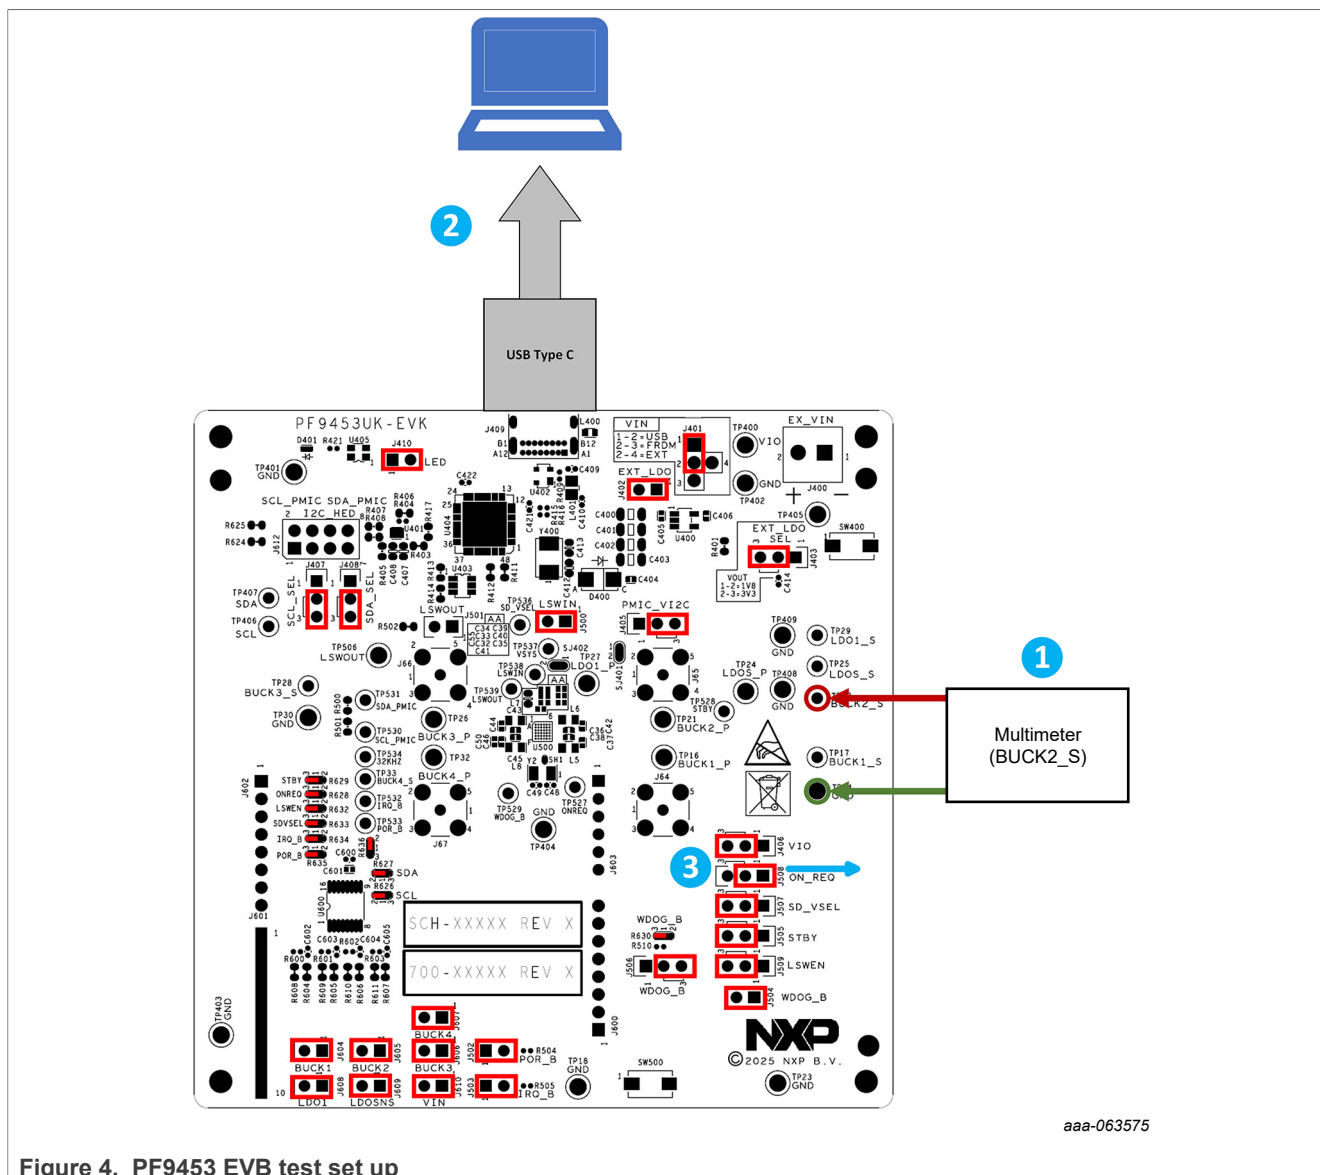

Figure 4. PF9453 EVB test set up
Figure 4 shows test setup block diagram.
See Figure 4 and follow the steps to test the PF9453UK-EVK. Ensure that all jumpers are in their default positions before starting. (See Section 5.3):
1. Connect the positive terminal of the multimeter to TP22 (BUCK2\_S) test point and the negative terminal of the multimeter to TP34 GND test point, see Figure 4 where step 1 is represented with the circle with number 1.
2. Connect the USB -Type C to the PF9453UK-EVK. See that the green LED D401 is ON, see Figure 4 circle with number 2. Use the USB Type-C connector as the power supply with this configuration. Avoid connecting loads that may exceed its power capacity. For tests requiring higher current—such as efficiency measurements—use an external power supply. See Section 6.4 for setup instructions. If the USB Type-C supply is sufficient, proceed to the next step.
3. Move the J508 to position J508 (1 to 2), refer to Figure 4, circle with number 3 (this turns on the PMIC by setting the high state the PMIC\_ON\_REQ pin).
As shown in Figure 4, connect the USB-Type C cable and follow the steps in Section 6.2. If an external power supply is needed for testing, i.e., efficiency tests, see Section 6.4.